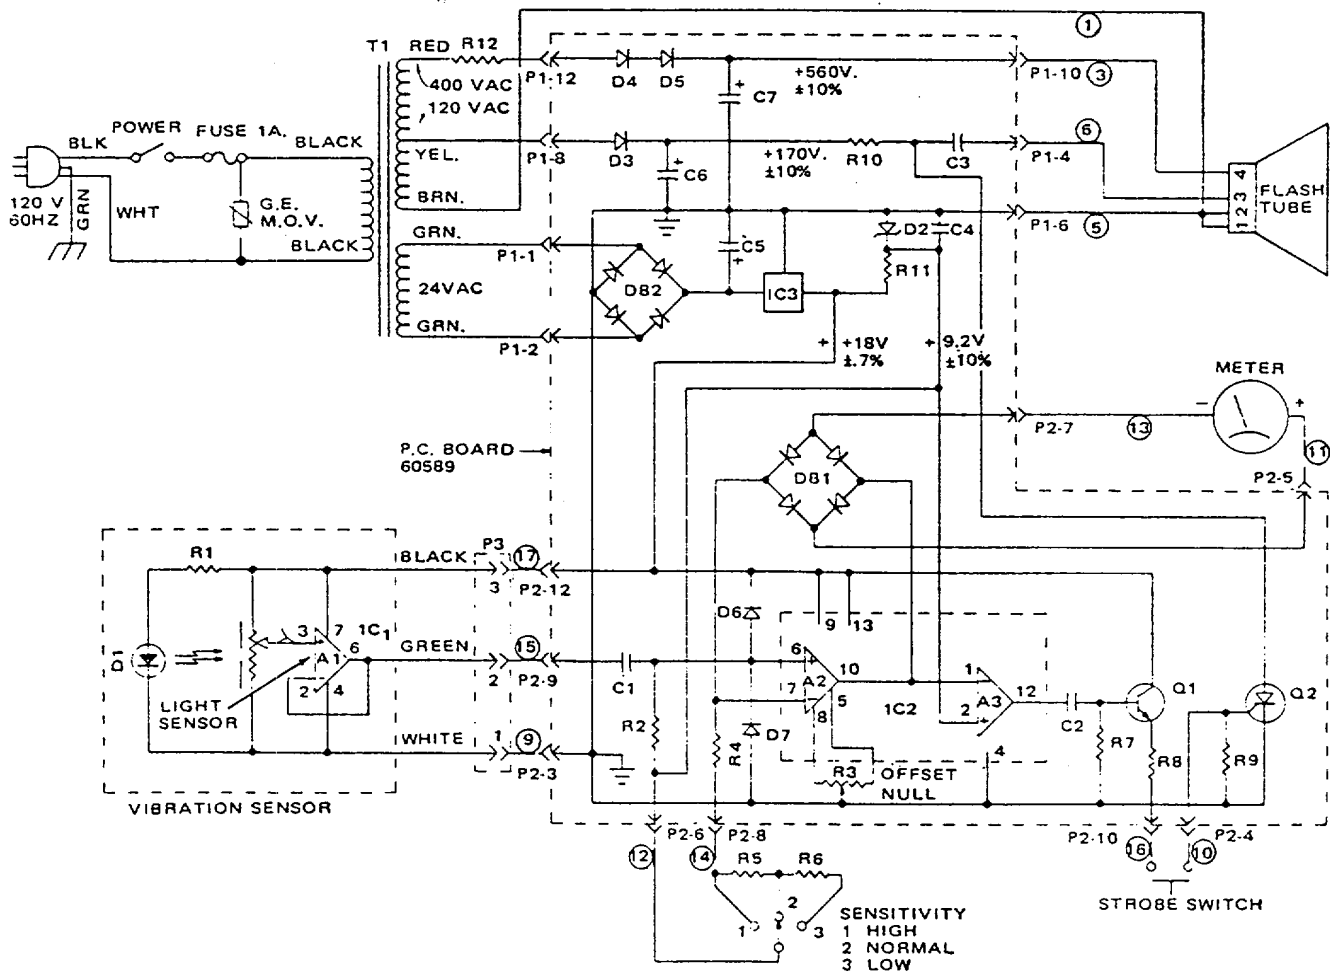

Figure 6. Schematic
13. With the reference mark in this correct position, apply the INITIAL WEIGHT to the top position of the wheel, figure 6. While the selection of the initial weight depends somewhat on judgement, experience and feel, a good starting point is 1-1/2 ozs.